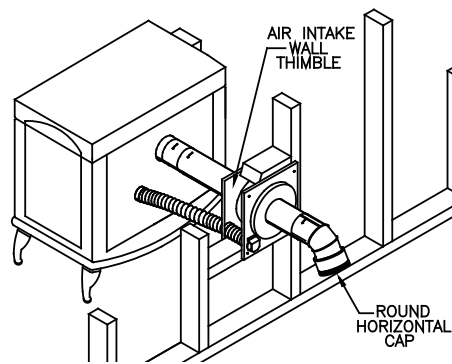

Figure 13
excess flex to required length with snips. Secure flex to combustion air inlet of the stove with clamp provided. Only connect metal flex to the appliance; do not substitute or install plastic flex. The cover plate comes installed on the lower left corner of the thimble with intake guard pointing downward to deflect rain. If it is desired to rotate thimble and air inlet to another corner, remove the (2) screws on the inlet guard and re-attach over air inlet at new location. Secure black interior half of the Wall Thimble to the interior wall, and the unpainted exterior half are to be secured to the exterior wall on both styles of thimbles (**Figure 13**). The Wall Thimbles adjust to fit walls from 4"-8" thick. For installation in thicker walls an extension tube may be field fabricated.
5. If the flue exit is on back of the stove, and a horizontal through-the-wall installation is desired (**Figure 13**):